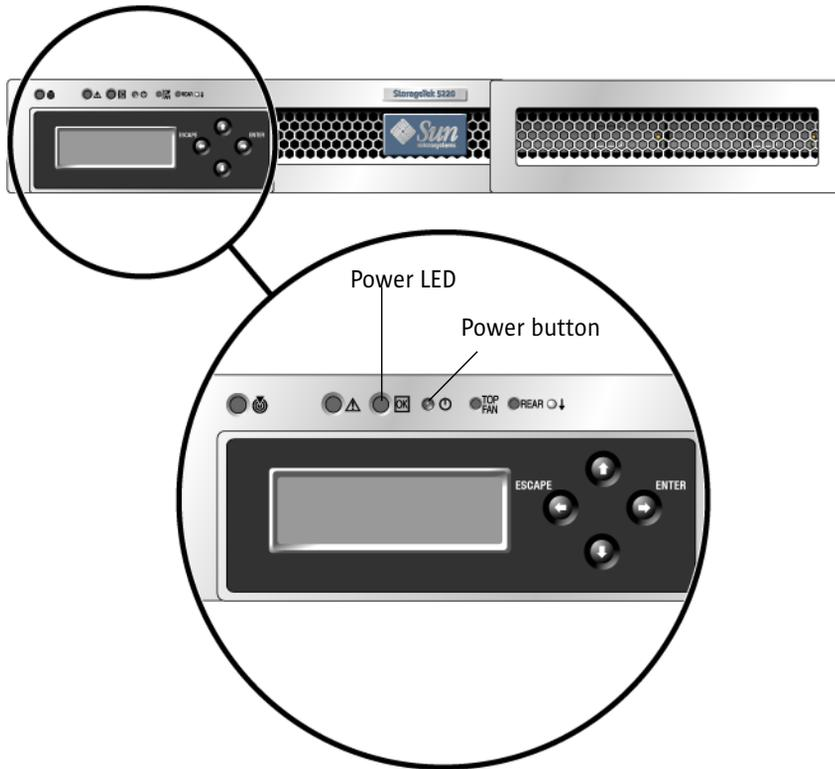

FIGURE 3-8 Detail of Power Button and Front Panel
5. Using a pen tip or similar implement, press the recessed Power button on the appliance's front panel, as shown in FIGURE 3-8.
9. Power on the appliance by pressing the recessed Power button located on the front panel. Using a pen tip or similar implement, press the recessed Power button on the appliance’s front panel, as shown in FIGURE 3-8.
7. Power on the appliance by pressing the recessed Power button located on the front panel. Using a pen tip or similar implement, press the recessed Power button on the appliance’s front panel, as shown in FIGURE 3-8.